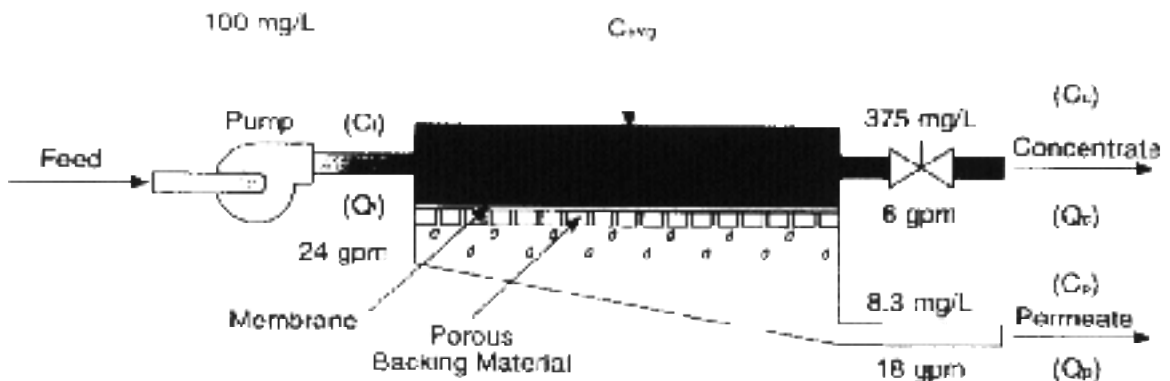

Figure 4 - Principles of Operation
Given the system case in Figure 4:
1.5.7 RO Membrane Rejection - (See Figure 4)	<p>Osmo HR(PA)</p> <p>Typical Ionic Rejection 95 - 98%</p> <p>Average Molecular Weight (MW) Cutoff * 150 MW *</p>